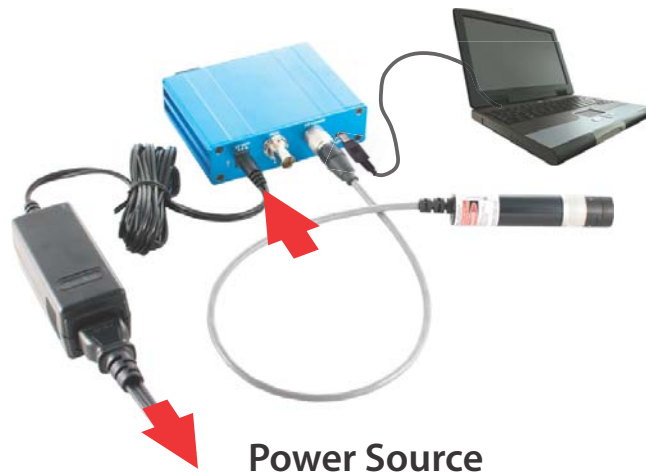

Figure 2-25. Connect Power Supply to Remote
5. Connect the Power Supply to the Remote, and then the power cable into a power source (outlet), as shown in Figure 2-25: